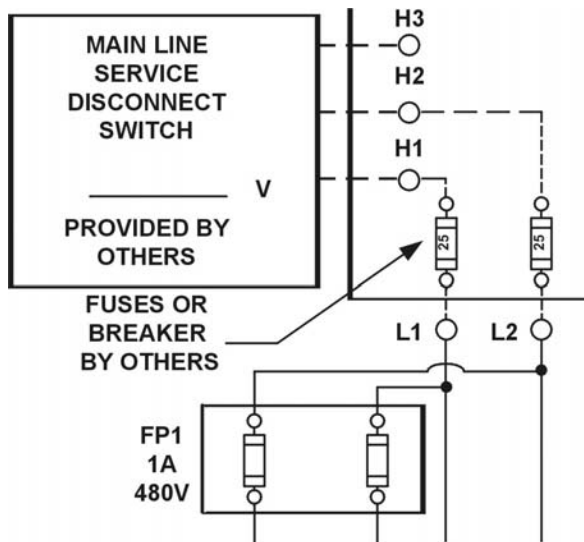

Figure 3-5
D. The fourth circuit will only be required if a power transformer is used. A separate fused circuit from the primary side of the power transformer terminals H1 and H2 to the FP1 fuse block on the drive side of the controller. [See Figure 3-5.]